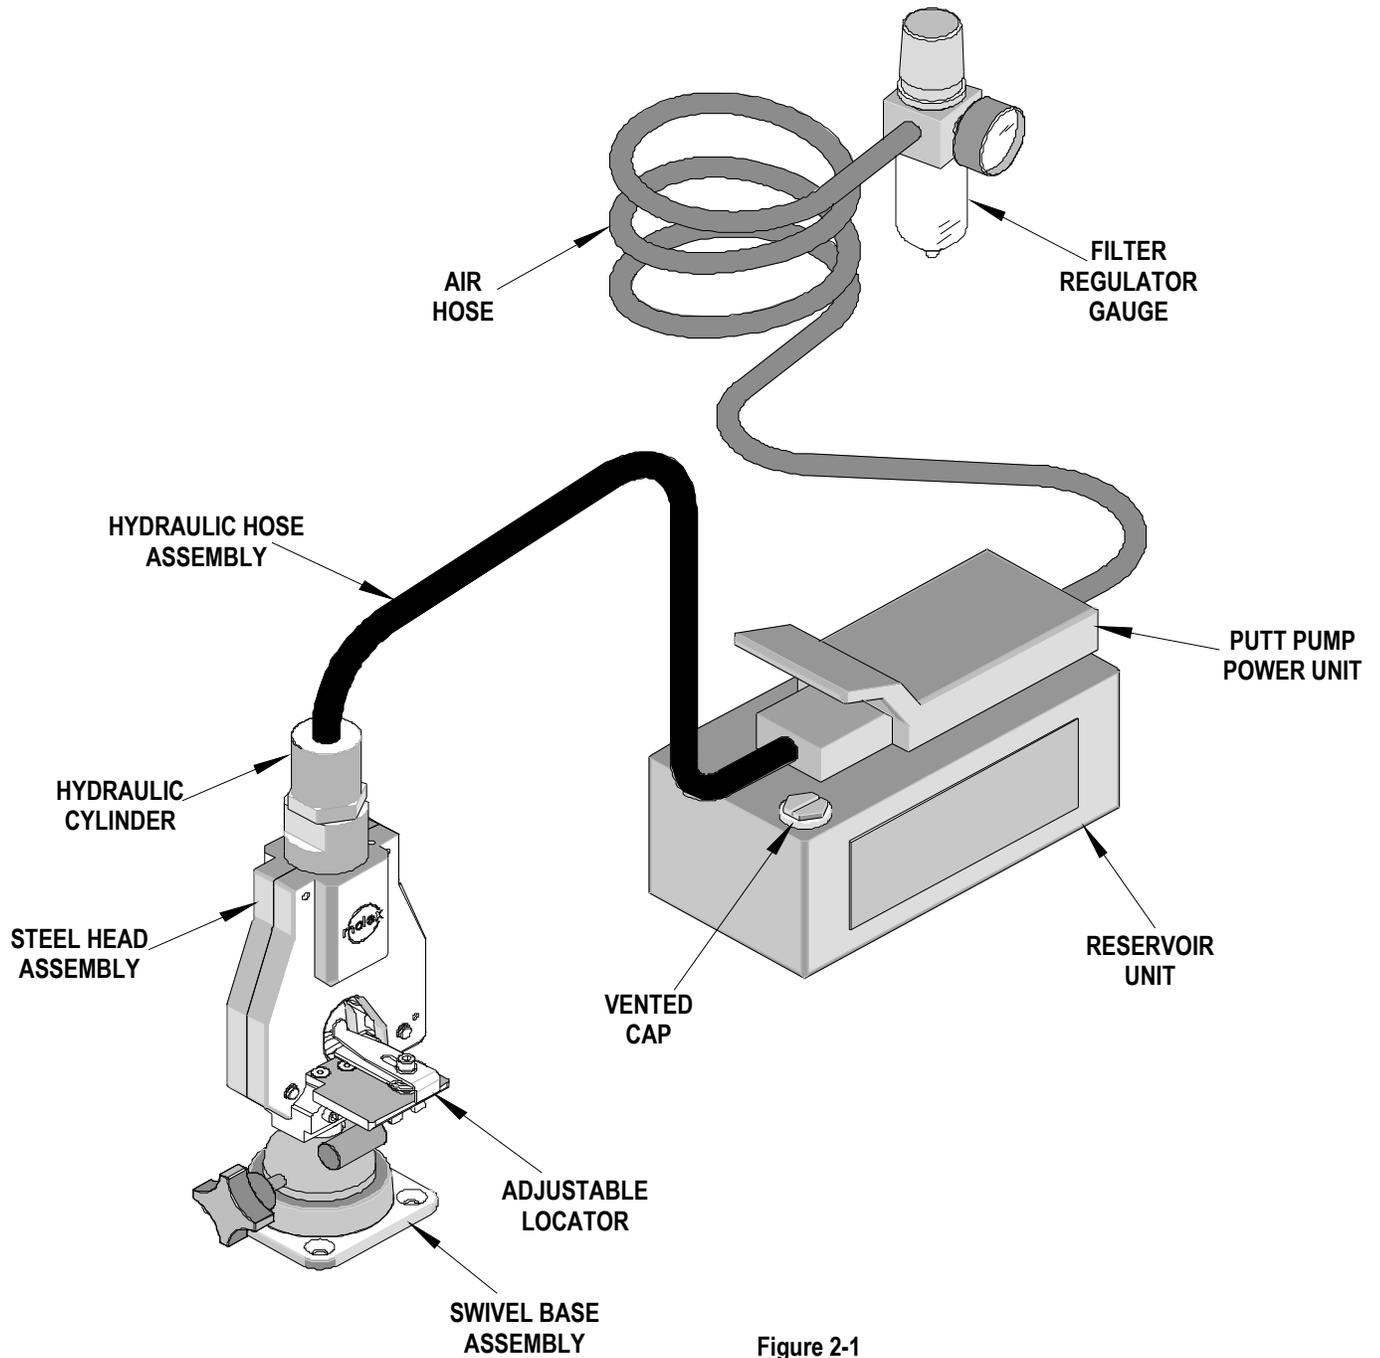

Figure 2-1
2.1 Description (See Figure 2-1)